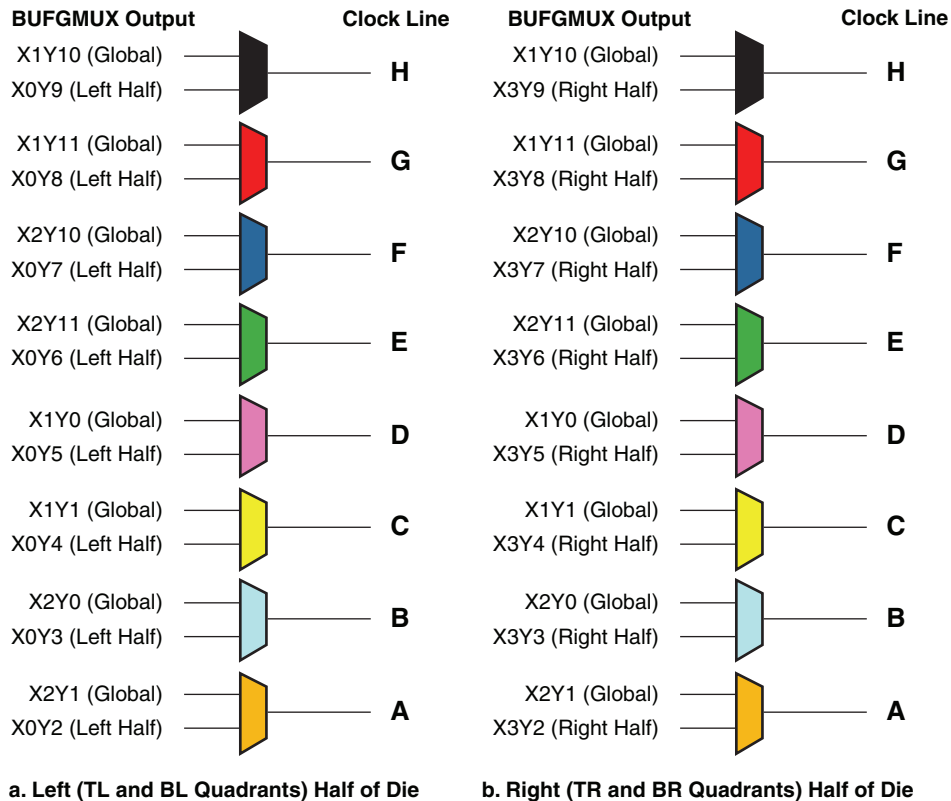

Figure 2-12: Spartan-3E and Extended Spartan-3A Family Clock Sources for the Eight Clock Lines within a Clock Quadrant
2. See Figure 2-2 for specific BUFGMUX locations, and Figure 2-12 for information on how BUFGMUX elements drive onto a specific clock line within a quadrant.
The clock routing within the Spartan-3E and Extended Spartan-3A family FPGA is quadrant-based, as shown in Figure 2-2, page 45. Each clock quadrant supports eight total clock signals, labeled A through H in Table 2-7 and Figure 2-12. The clock source for an individual clock line originates either from a global BUFGMUX element along the top and bottom edges or from a BUFGMUX element along the associated left/right edge, as shown in Figure 2-12. The clock lines feed the synchronous resource elements (CLBs, IOBs, block RAM, multipliers, and DCMs) within the quadrant. Those resources have programmable polarity on the clock input.
Figure 2-12 shows how the clock lines in each quadrant are selected from associated BUFGMUX sources. For example, if quadrant clock A in the bottom left (BL) quadrant originates from BUFGMUX_X2Y1, then the clock signal from BUFGMUX_X0Y2 is